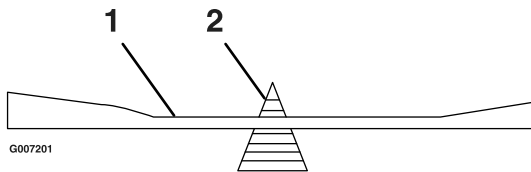

Figure 37
2. Check the balance of the blade by putting it on a blade balancer (Figure 37). If the blade stays in a horizontal position, the blade is balanced and can be used. If the blade is not balanced, file some metal off the end of the sail area only (Figure 37). Repeat this procedure until the blade is balanced.